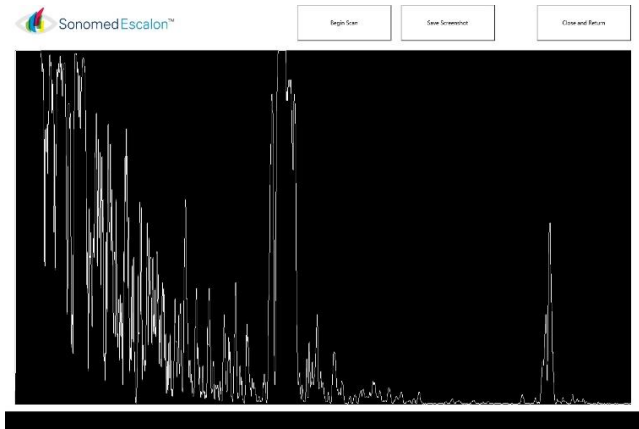

Fig. 9 - Diagnostic-A Utility Screen
⑤ **Application Window:** Upon selecting the ‘Diagnostic-A Utility’ button the VuMAX HD patient database will momentarily close and the Diagnostic A-Scan Utility screen will open (Fig. 9).